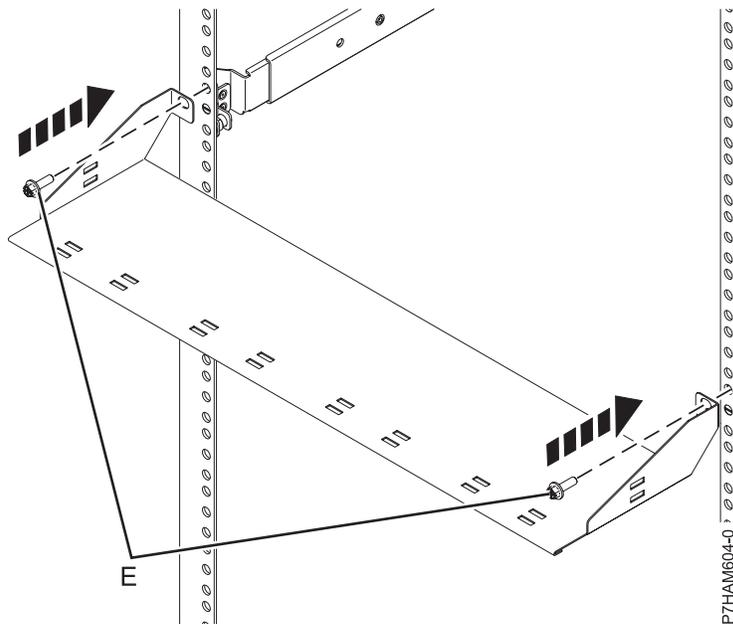

Figure 9. Mounting the cable management bracket
- g. At the rear of the rack, hold the cable management bracket up to the rear rack flanges, aligning the bracket mounting holes to the top holes of the EIA containing the enclosure, as shown in Figure 9. Apply the securing screws (E) through the bracket mounting holes and into the top EIA holes on the rack flanges.
**In order to provide for the secure attachment of the rails, the securing screws (E) must be applied at the specified EIA locations even if you do not mount the cable management bracket.**